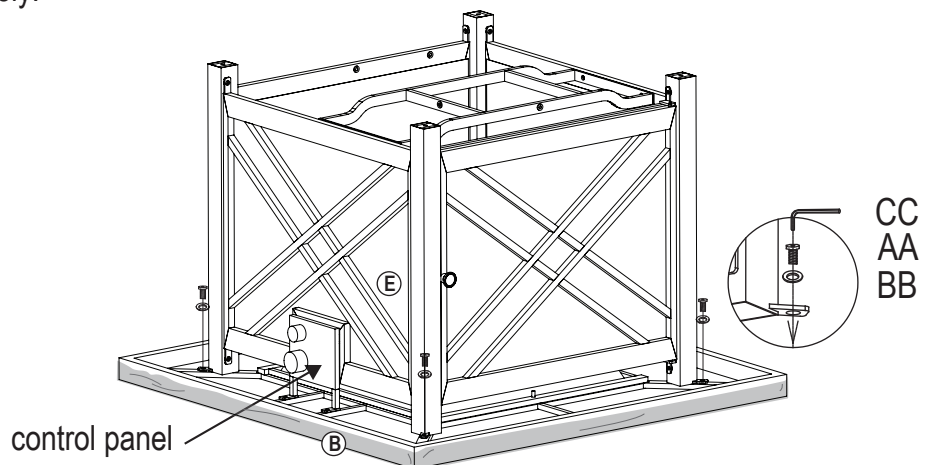

Figure 9
9. Place table top (B) on a non-abrasive flat surface to prevent scratching. Attach base assembly to table top assembly (B) with bolts (AA) and washers (BB) using hex screw driver (CC). Make sure the control panel just covers up the notch on the right panel (E), (see Figure 9).